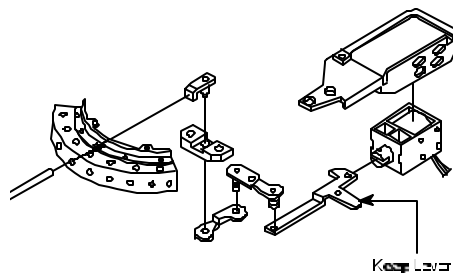

Figure 1
3. **Pull** thread keep lever forward to disengage thread apron clamps. *See Figure 1.*